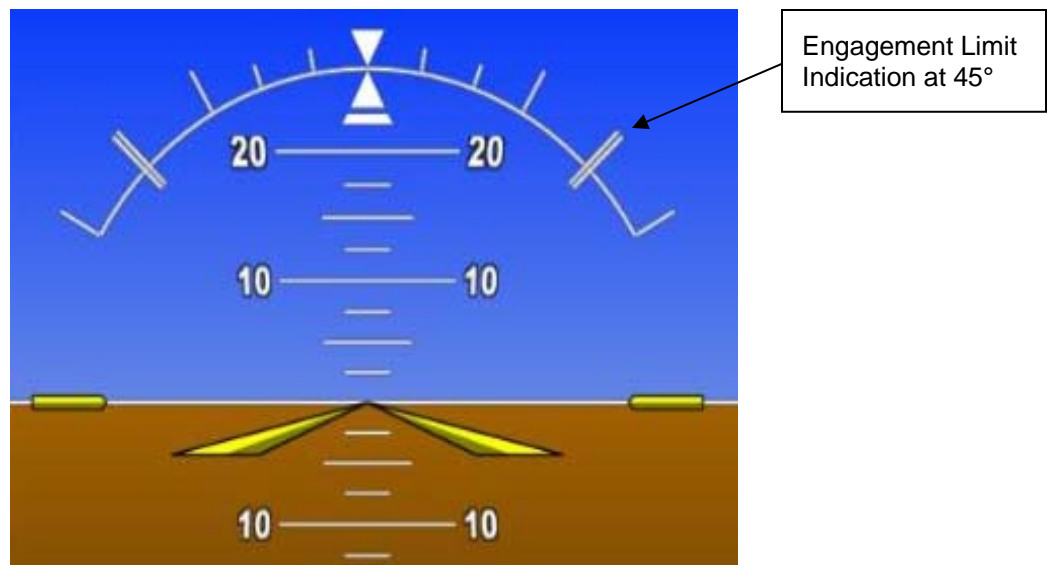

Figure 12 – Nominal Roll Attitude ESP Engagement Limit Indications
PFD display symbology implemented for ESP is illustrated in Figures 12 thru 14. All other indications on the GDU displayed in the examples are to provide position reference for the ESP system symbology. The values indicated are not representative of a condition required to activate ESP.
- The engagement and disengagement attitude limits are displayed with double hash marks on the roll indicator depending on the aircraft attitude and whether or not ESP is active in roll. When ESP is inactive (roll attitude within nominal limits) only the engagement limit indications are displayed in order to reduce clutter on the roll indicator. See Figure 12 for an example of the ESP engagement limit indications.